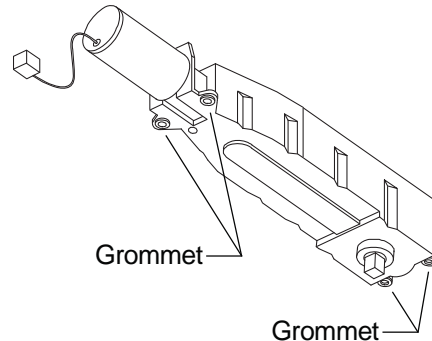

Figure 5-2
- 5.3. Make sure there is a rubber grommet inside each of the four operator mounting holes (Figure 5-2).